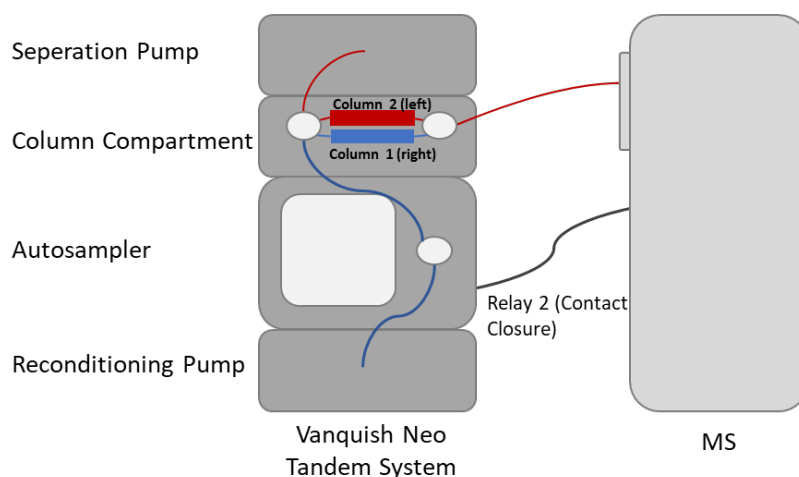

Figure 70: Schematic depicting the single spray source options. In this example “switching valve connected to detector -> right” has been selected
In this configuration, the two separation columns are situated between the two low-dispersion valves in the column compartment with a single outlet to the detector (see Figure 70). The single source configuration is supported for nano/cap (using 20 μ m I.D. capillaries) and micro-flow (using 50 μ m I.D. capillaries) fluidic regimes.
Mass spectrometer acquisition is triggered by using contact closure cable (P/N 6000.1004) attached to the Autosampler Relay 2 (See Figure 70).
Figure 70 shows the detector (MS) located on the right hand side of the LC stack. Here the option “Switching Valve Connected to Detector -> Right” was selected in the A00 script during workflow setup. If the detector (MS) is located on the left hand side of the LC stack, then selecting the option “Switching Valve Connected to Detector -> Left” guides the user to install all the fluidics in a mirror image format compared to that shown above.